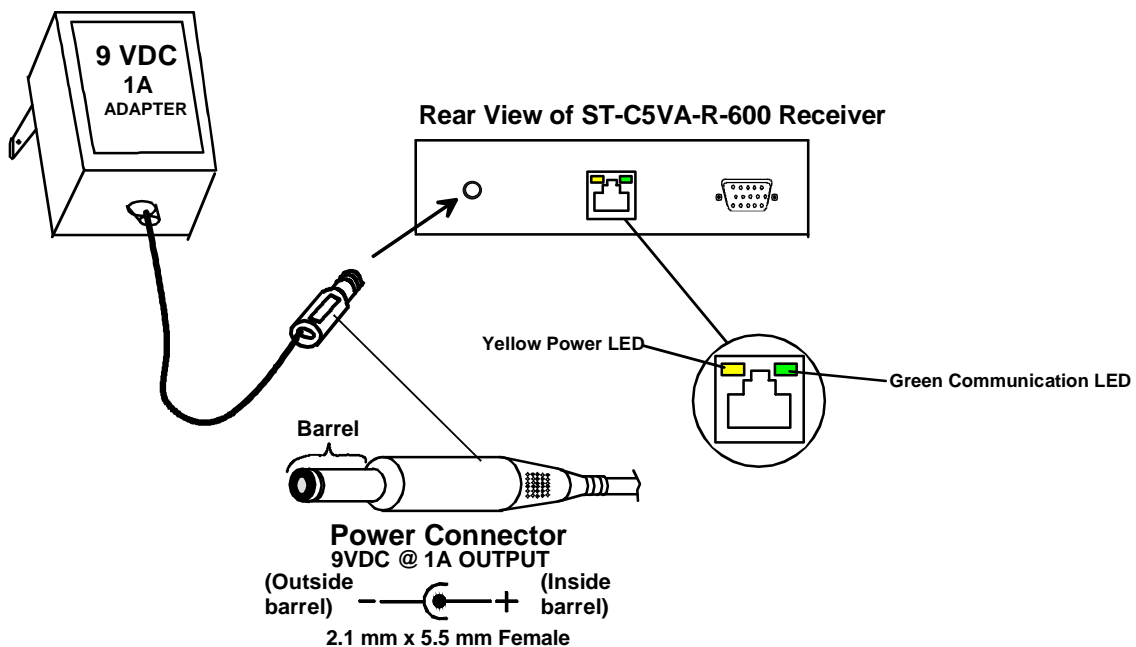

Figure 5- Connect an AC adapter to a ST-C5VA-R-600 Receiver
4. Plug each AC adapter into a power outlet. The green LED on the VOPEX and the yellow LED on the RJ45 connector of each XTENDEX Receiver should illuminate, indicating that a proper power connection has been made to them. (See Figure 5- Connect an AC adapter to a ST-C5VA-R-600 Receiver)
Note: The green LED on the RJ45 connector of each XTENDEX Receiver will blink anytime data traffic is passing between the VOPEX and the XTENDEX Receivers, indicating proper CAT5 cable connection and communication. (See Figure 5- Connect an AC adapter to a ST-C5VA-R-600 Receiver)